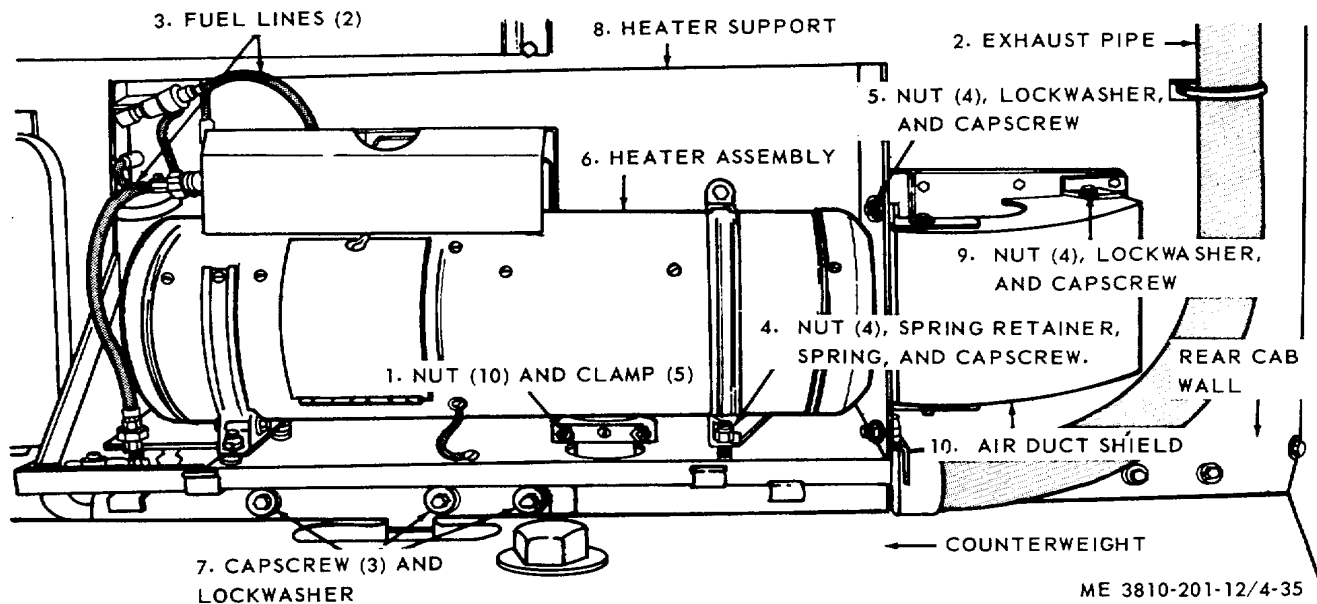

Figure 4-35. Personnel heater removal and installation.
a. Removal and Installation. Refer to figure 4-35 and remove personnel heater. Install in reverse order.